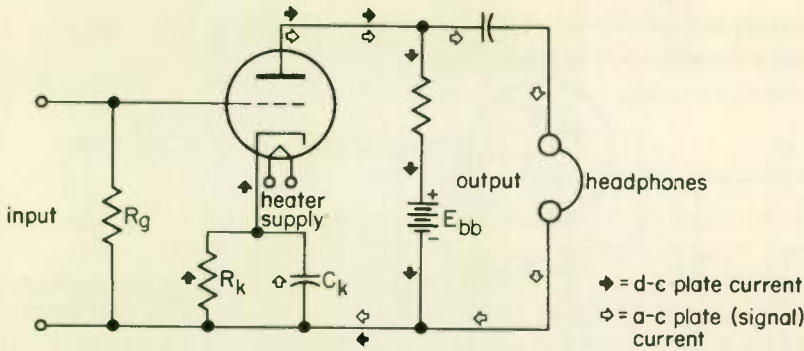

Fig. 19
3. Assume the amplifier of Fig. 19 is brought to you for repair. The complaint is that the headphones output is normal when first turned on